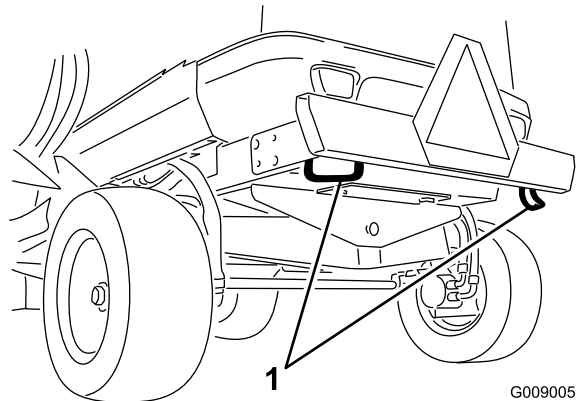

Figure 41
- Front tie down (2)
- The rear bumper (2 places) (Figure 41).